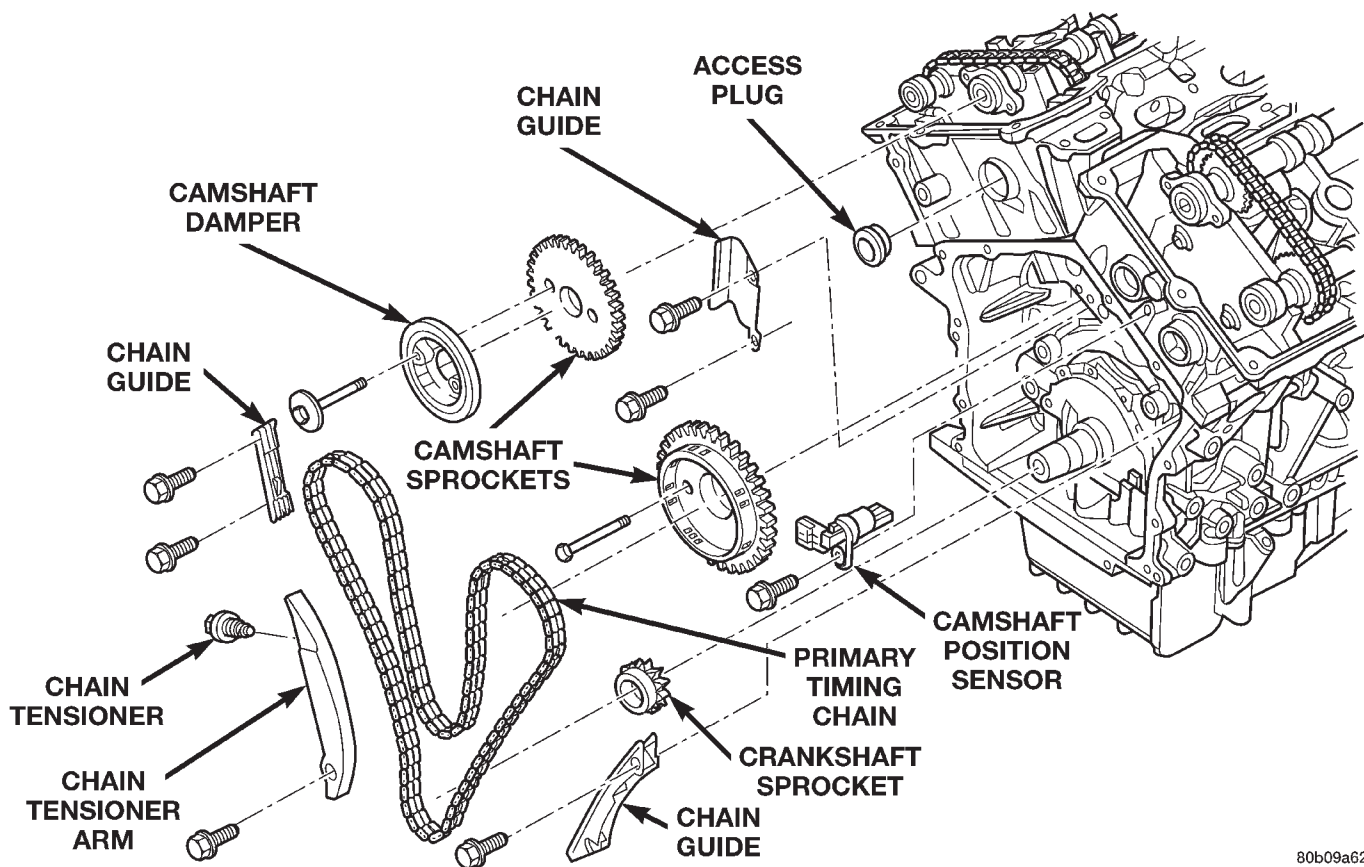

Fig. 53 Primary Timing Drive System
(4) Remove the primary timing chain tensioner from right cylinder head (Fig. 53).
(5) Remove camshaft position sensor from left cylinder head (Fig. 53).
(6) Remove chain guide access plug from left cylinder head (Fig. 53).
(7) Starting with the right camshaft sprocket, remove the sprocket attaching bolts. Remove camshaft damper and sprocket (Fig. 53).
(8) Remove left side camshaft sprocket attaching bolts and remove sprocket (Fig. 53).
(9) Remove lower chain guide and tensioner arm (Fig. 53).
(10) Remove the primary timing chain.
(11) Inspect all sprockets and chain guides. Replace if worn. Refer to crankshaft sprocket, for removal and installation procedures.
(9) Install left lower chain guide and tensioner arm (Fig. 53). Tighten attaching bolts to 28 N·m (250 in. lbs.).
(10) Install chain guide access plug to left cylinder head (Fig. 53). Tighten plug to 20 N·m (15 ft. lbs.).
(13) Install chain tensioner into the right cylinder head (Fig. 53).